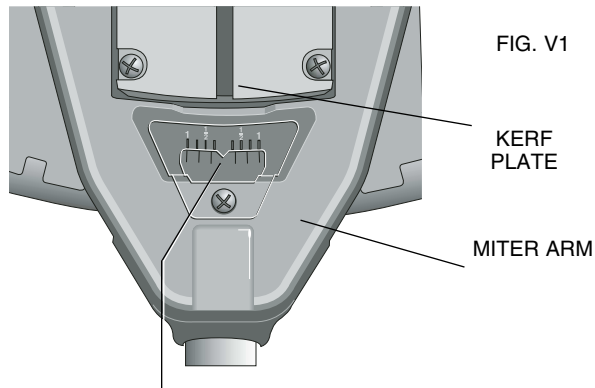
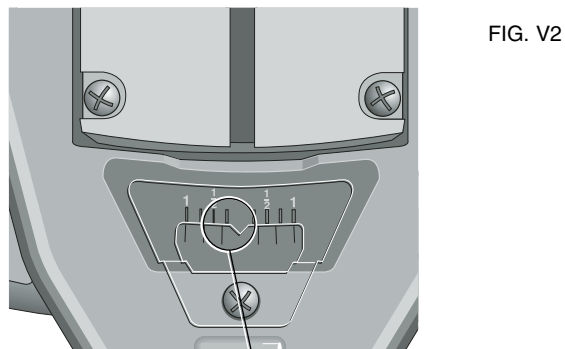

FIG. V1
FIG. V2
2. Set the miter angle to the nearest whole degree desired by aligning the center mark in the vernier scale, shown in Figure V1, with the whole degree etched in the miter scale. Examine Figure V2 closely; the setting shown is 24 degrees right miter.
3. To set the additional 1/4 degree, squeeze the miter arm lock and carefully move the arm to the RIGHT until the 1/4 degree vernier mark aligns with the CLOSEST degree mark on the miter scale. In our example, the closest degree mark on the miter scale happens to be 25 degrees. Figure V2 shows a setting of 24-1/4 degrees right miter.